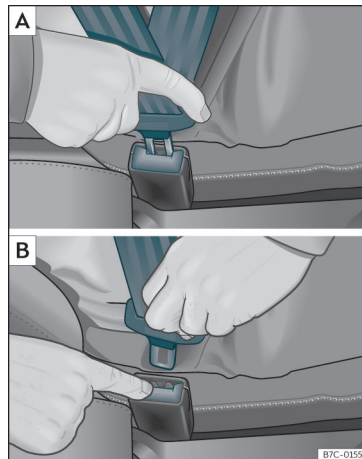

Fig. 79 Positioning and removing the seat belt buckle.
»» **Fig. 79 A.**
- Press the red button on the belt buckle »» **Fig. 79 B.** The latch plate is released and springs out »» .